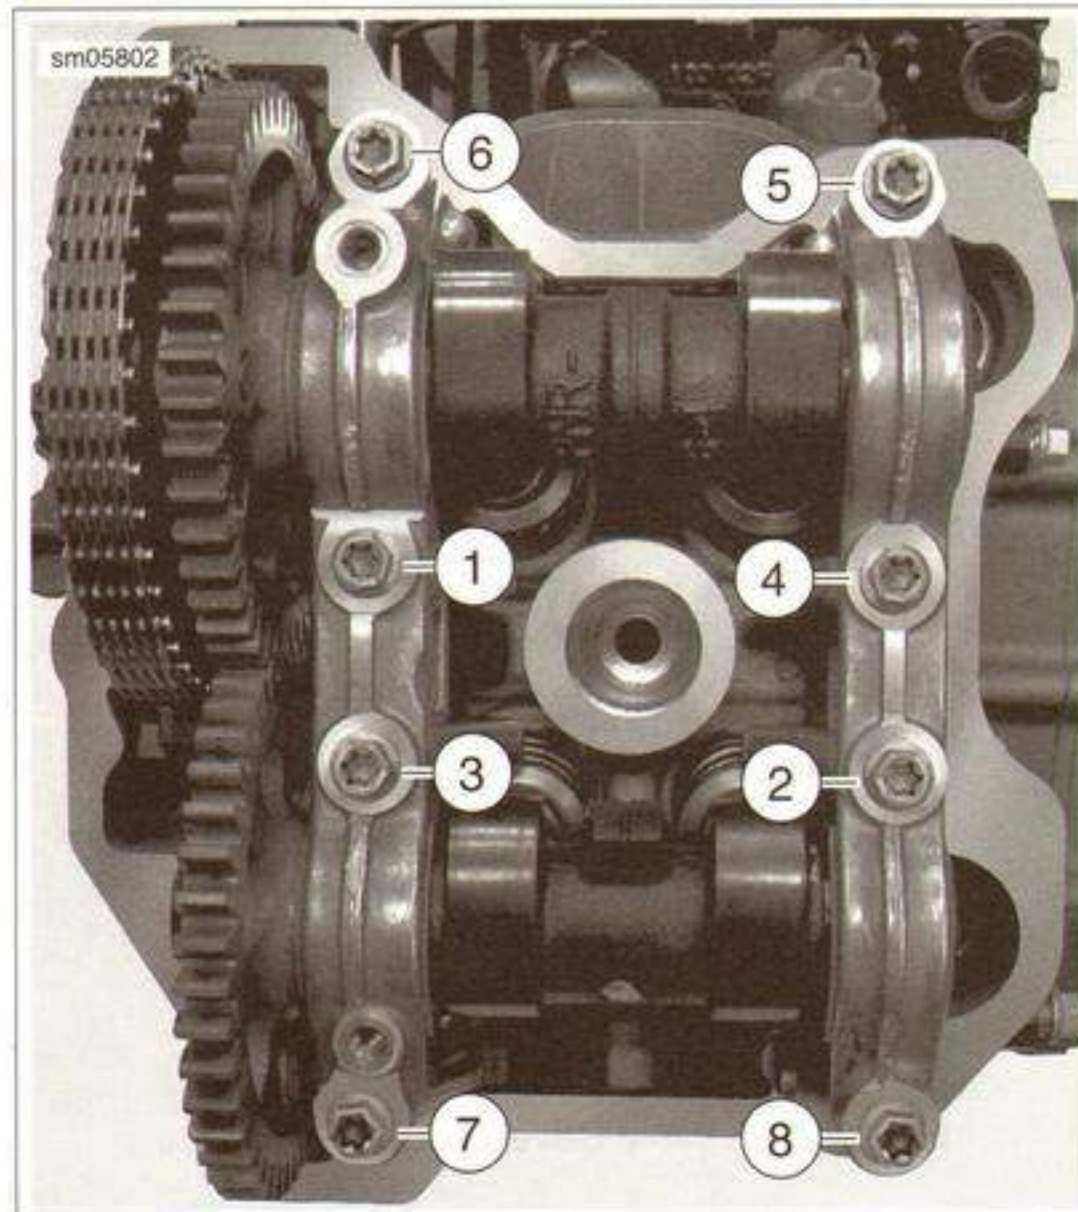

Figure 3-70. Camshaft Assembly Torque Sequence
9. See Figure 3-70. Loosen camshaft bracket fasteners in reverse order of torque sequence.